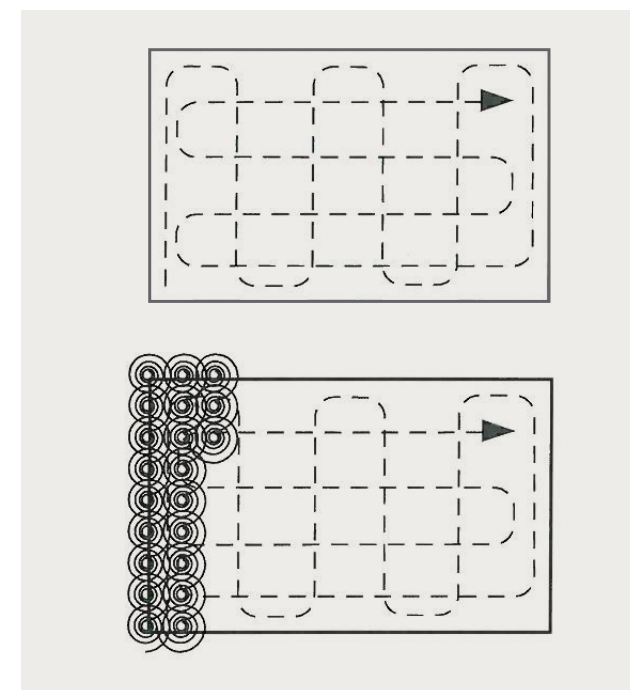

Fig 12
- Maintain sufficient overlap during the sanding process, moving through "North, South" and "East, West" rows. (Fig 12)